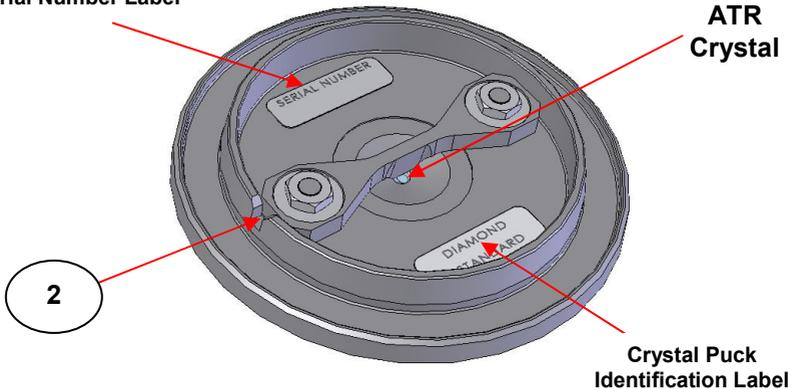

Fig 3. Underside view of Quest ATR Diamond Crystal Puck Assembly
The ATR crystal puck assemblies will fit onto the top surface area of the Quest ATR Accessory in one orientation only. Align the location slot (notch) (2) on the underside of the crystal puck (see Fig 3.) with the location pin (3). The location slot (2) of the ATR crystal puck must be facing towards the front of the Quest ATR Accessory where the thumbscrew fixing (1) is located. (See Fig 1.) Allow the three magnetic circular spot catches (4) to engage to the underside circumference surface of the ATR crystal puck to hold it securely in position. To remove and swap over with any other ATR crystal puck assembly, just grip the sides of the ATR crystal puck and pull it up to release the hold of the magnetic catches.